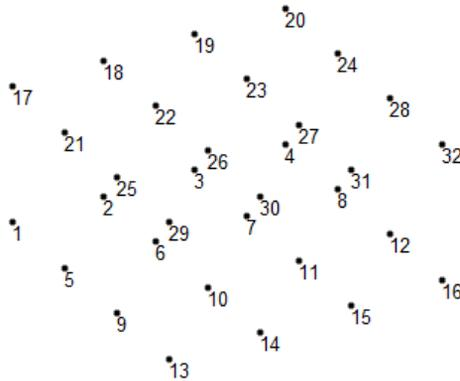

Figure 2-6 Nodes of the space frame structure
Step 4: Choose the **Save** button from the **File** menu in the **STAAD Editor** window and then close the window; the nodes are generated. Press **SHIFT+N** to view the node numbers, refer to Figure 2-6.